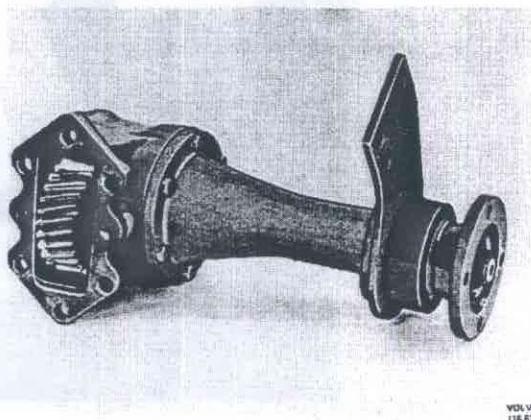

Fig 46-134 Power take-off
3. Fit the bolts round the casing. Remove the guide pins. Tighten the bolts to a torque of 100–120 Nm (10–12 kpm = 72–87 lbftf). Use 6135, see Fig. 46-134. Remove the jack.